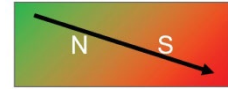

Figure 23. Magnetization Error
- ▶ Magnet magnetization error. This is caused by tolerances in the magnet manufacturing process. See Figure 23.